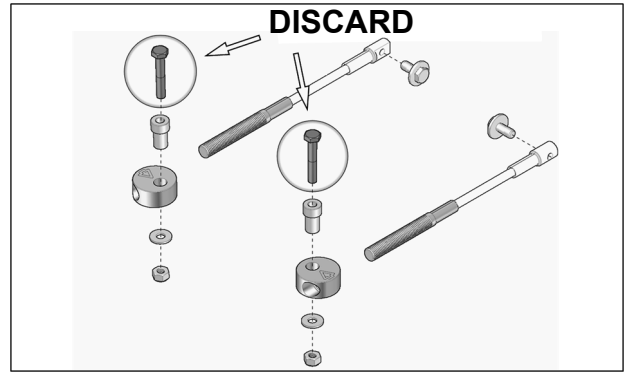

Fig. 22
- Discard the M10x60mm bolts (C3) from steering limiter assembly kit. See Fig. 22